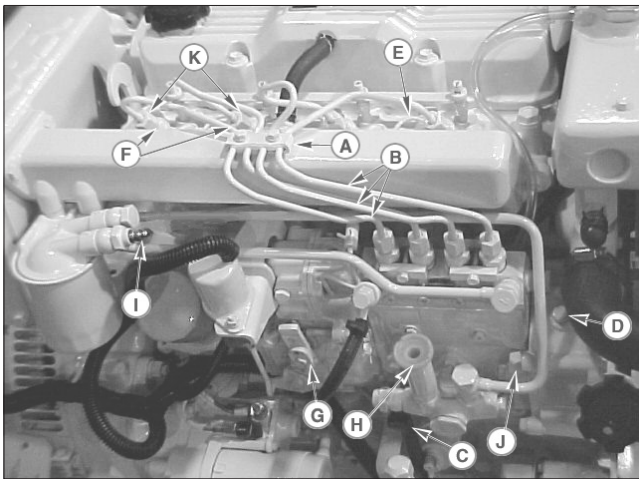

Figure 10: Fuel System
2. Loosen bleed nipple (Figure 10-I) on top of the fuel filter. Pump hand primer (Figure 10-H) on fuel lift pump until pure fuel (no bubbles) escapes from the bleed nipple (Figure 10-I). Tighten bleed nipple.
3. If the engine does not start after this bleeding process, loosen a fuel line at the injector (Figure 10-F) while cranking the engine with the starter motor until pure fuel escapes. Then tighten the connection. Do each line **one-at-a-time**.